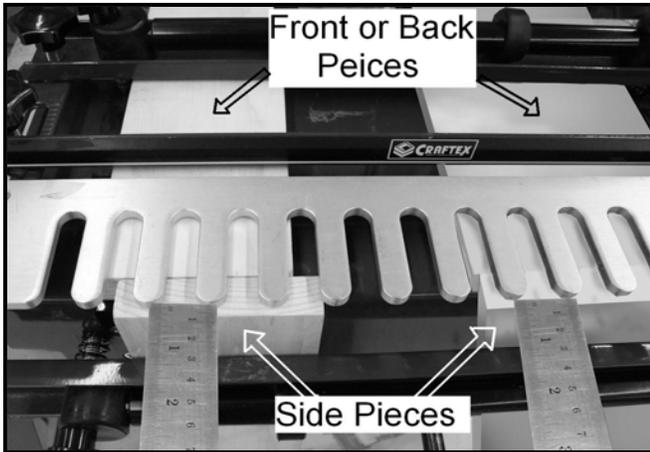

Figure-8 Shows checking the template to make sure it is parallel to the top of the vertical pieces. The inside faces are showing.
2. For pieces that are less than 7/8" thick, slide the template so the front edge of the template fingers are 1/8" back from the top edge of the vertical piece. See Figure-8. For side pieces thicker than 7/8", add 1/8" to the amount that the board exceeds 7/8". Then, set the front edge of the template fingers back from the edge by that sum. See Figure-8.
*Ensure that the front edge of the template is parallel to the edge of the vertical work-piece. To maintain a high degree of accuracy when adjusting the template, measure at one end of the jig then measure at the other end. Make adjustments to the template and re-measure both positions. To measure at both ends of the jig, try shifting the vertical piece to the other end of the jig or clamp two pieces at each end of the jig as shown in Figure-8. It is not necessary to simultaneously measure with two rulers. The two rulers only represent two measurement locations.*